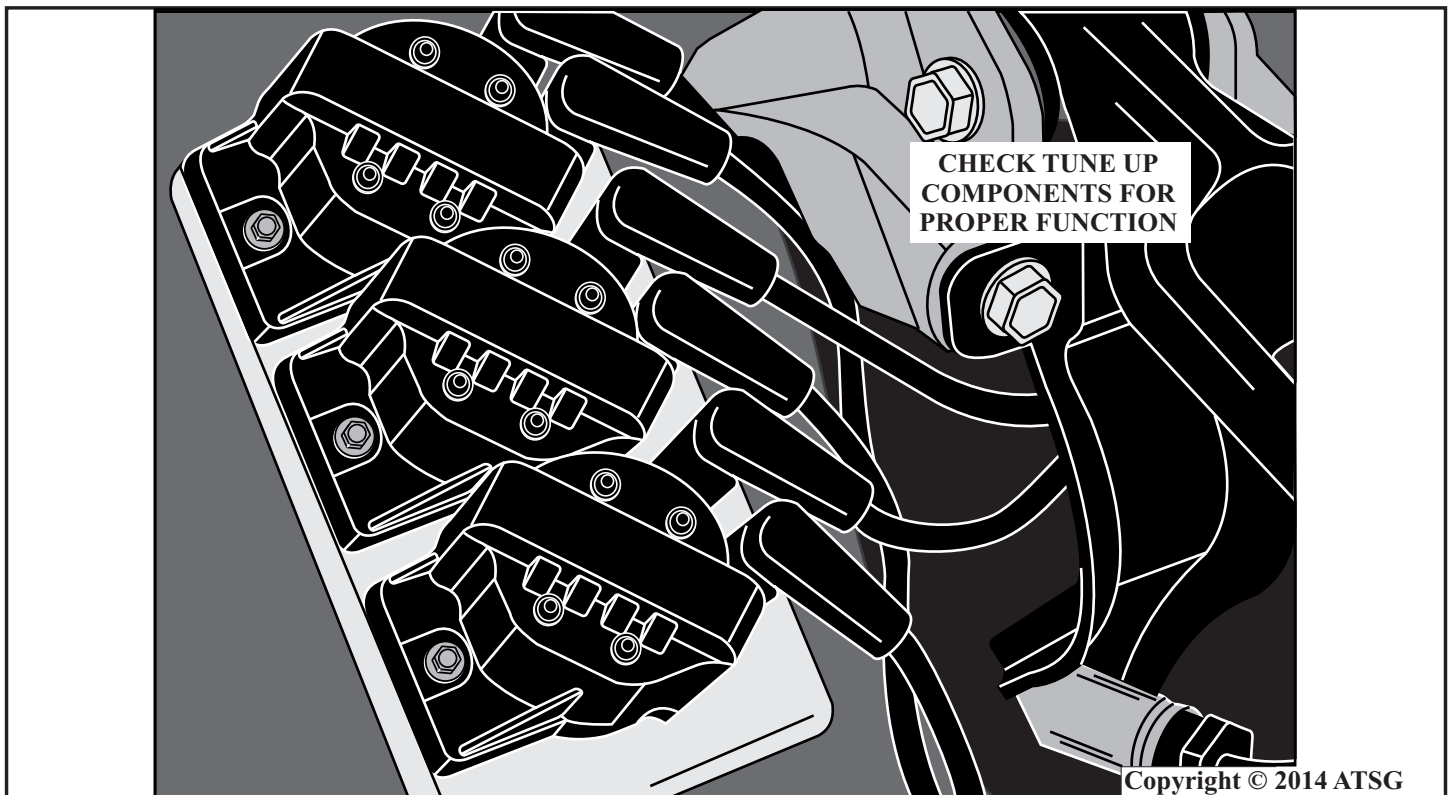

Figure 8
- 12 - Check tune-up items for proper function and replace components that are not functioning properly. Be sure to check Mode \$06 for any failures that may be relevant to the existing complaint and be sure to check the Misfire Monitors as well as Freeze Frame or DTC storage, Figure 8.